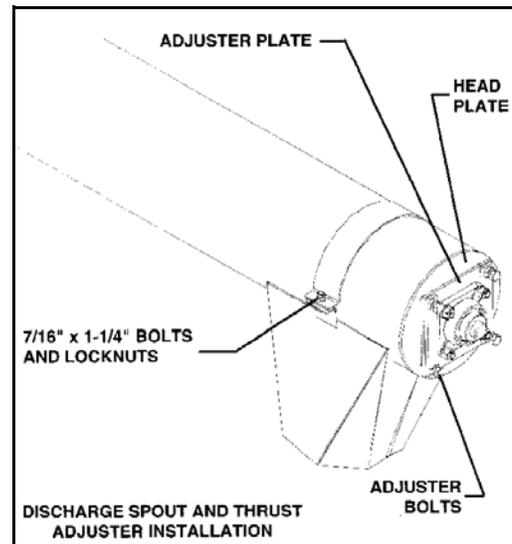

Figure 3.9
1. Attach discharge spout with 7/16" x 1-1/4" bolts and locknuts (Figure 3.9).
MK100 91'(Figure 3.9):